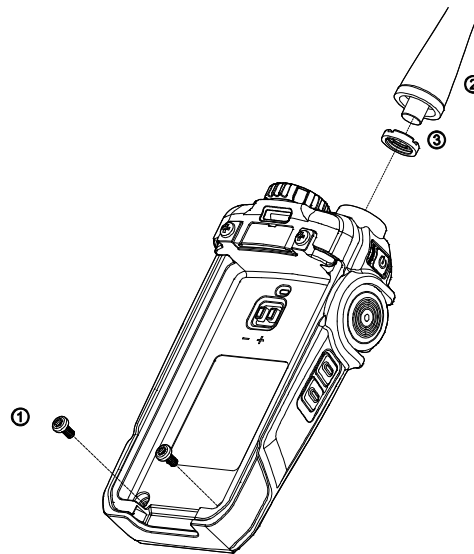

Figure 5
- ① Remove the 2 screws at the bottom of the radio.
- ② Rotate and remove the antenna at the top of the radio. As shown in Figure 5.
- ③ Remove the fixed nuts by professional instruments.